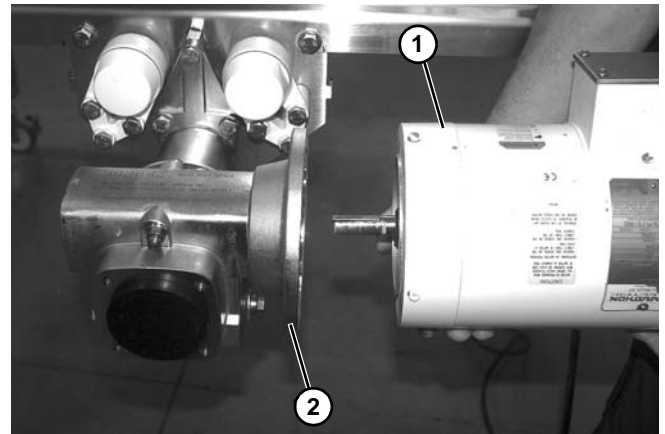

Figure 169
3. Remove motor (Figure 169, item 1) from the gear reducer (Figure 169, item 2).